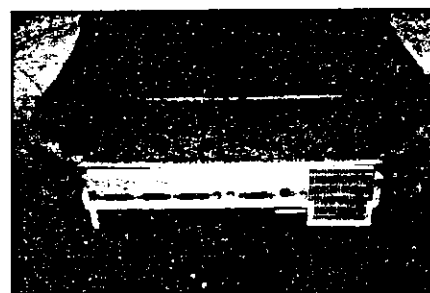

Fig. 2-5. Top Housing Removal
**2.3.6** The TOP HOUSING snaps into the bottom housing, so remove by applying a slight outward pressure on the bottom housing, or inward pressure on the top housing, at the rear corners of the computer. See Fig. 2-5. Set the top housing aside.